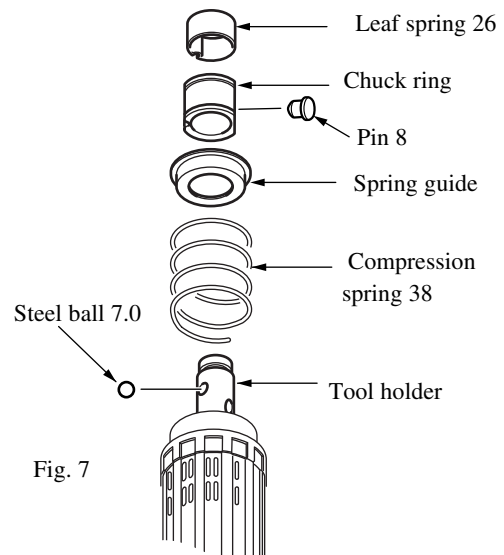

Fig. 7
- 2) Remove Leaf spring 26 from Chuck ring and remove Pin(See Fig.7).
- 3) When removing Chuck ring, Steel ball7.0, Spring guide and Compression spring38 will come off. (See Fig.7)